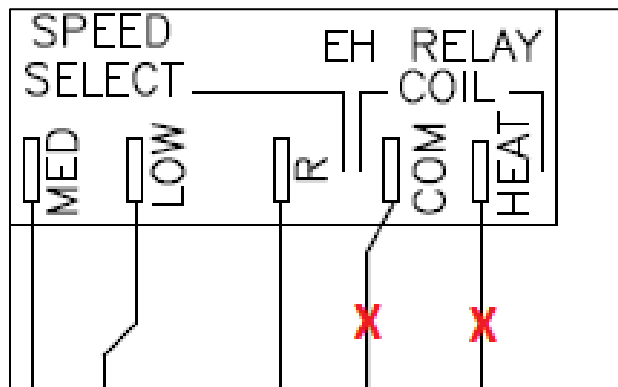

Figure 10 – Removing electric heat wires
6. Remove electric heat wires (see Figure 10)